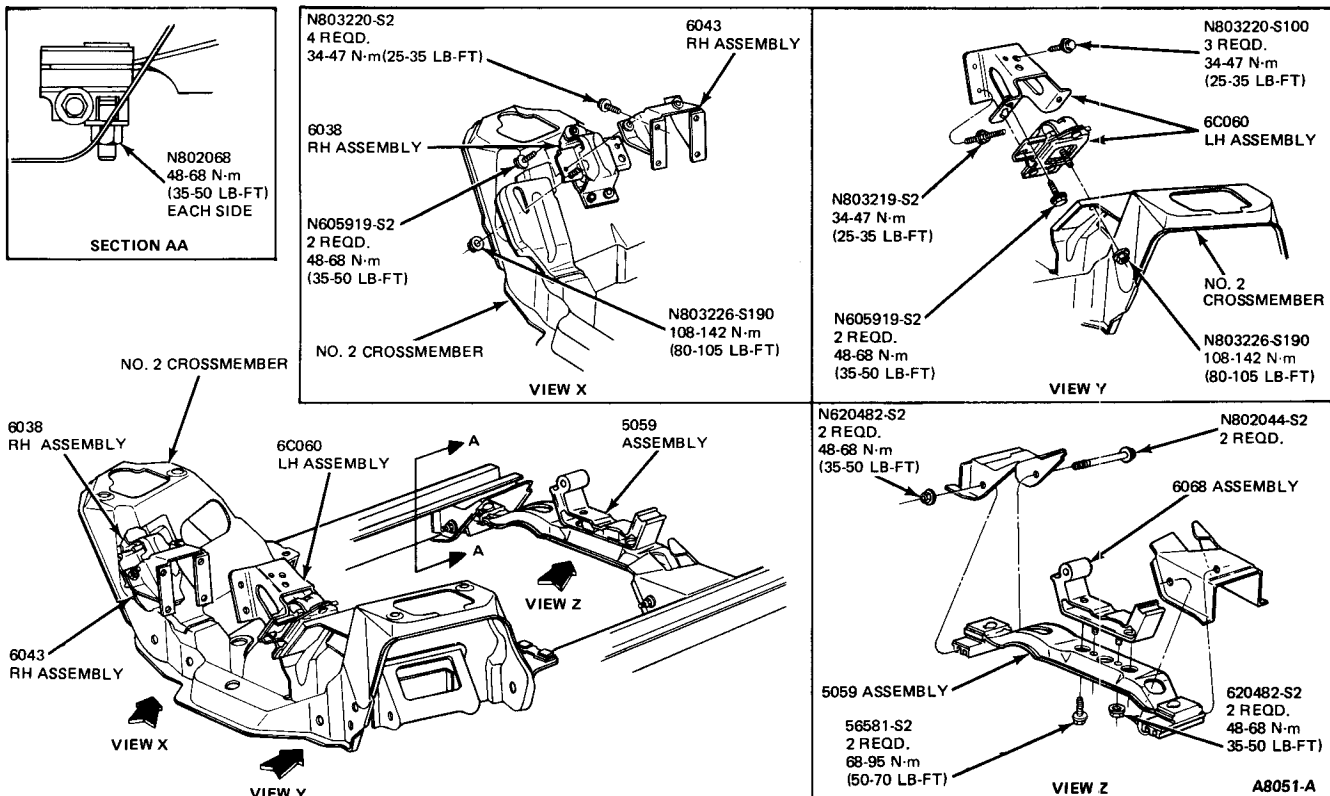

FIG. 10 Engine Mount Installation—Front and Rear
2. Remove the insulator to the No. 2 crossmember nuts (Fig. 10).
1. Position insulators to brackets and secure with bolts (Fig. 10). Tighten to 48-68 N·m (35-50 lb-ft).
3. Remove the bracket to engine bolts (Fig. 10).
1. Position bracket to engine and attach with bolts (Fig. 10).
2. Remove the two bolts attaching the rear insulator to the transmission (Fig. 10).
1. Install insulator to transmission (Fig. 10), and tighten bolts to 68-95 N·m (50-70 lb-ft).